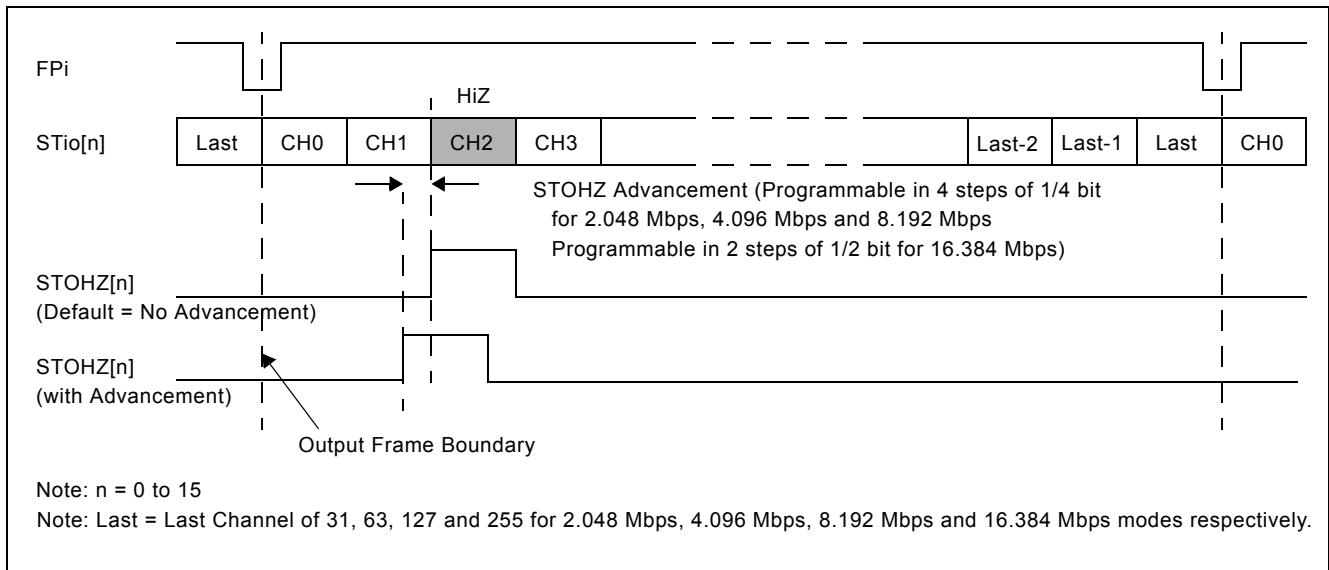

Figure 16 - Channel Switching External High Impedance Control Timing
There are 16 external high impedance control signals, STOHZ0 - 15, that are used to control the external drivers for per-channel high impedance operations. Only the first sixteen ST-BUS/GCI-Bus (STio0 - 15) outputs are provided with corresponding STOHZ signals. The STOHZ outputs deliver the appropriate number of control timeslot channels based on the output stream data rate. Each control timeslot lasts for one channel time. When the ODE pin is high and the OSB (bit 2) of the Control Register (CR) is also high, STOHZ0 - 15 are enabled. When the ODE pin, OSB (bit 2) of the Control Register (CR) or the  $\overline{\text{RESET}}$  pin is low, STOHZ0 - 15 are driven high, together with all the ST-BUS/GCI-Bus outputs being tristated. Under normal operation, the corresponding STOHZ outputs of any unused ST-BUS/GCI-Bus channel (high impedance) are driven high. Refer to Figure 16 on page 26 for a diagrammatical explanation.